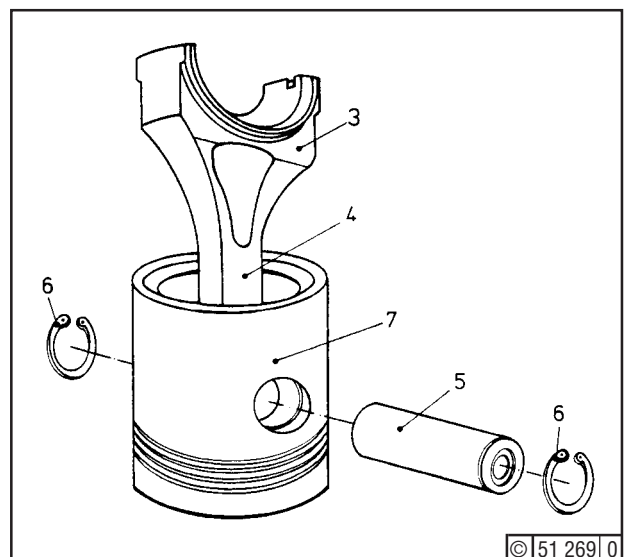

Fig. 2
When installing circlips (6), check that their gaps are facing towards the big-end (3) (see Fig. 2).